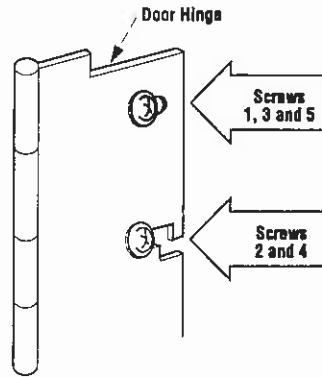

Figure 46
**Step 2.** Starting with either the right or left side door assembly, slide the door hinge (attached to the door) behind the two (2) screws that remain in the fireplace side, that align with the open slots in the hinge. Hang the door assembly over these two (2) screws so that the door hinge is set towards the rear of the fireplace as far as it will go (Figure 46).